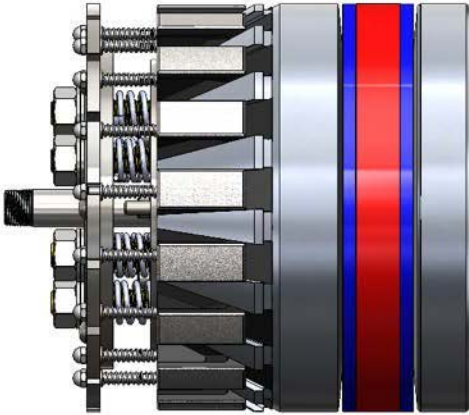
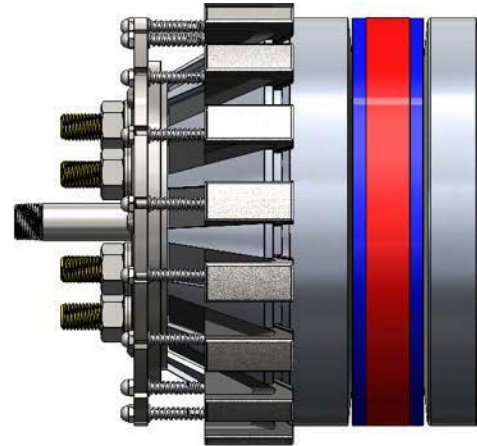

Figure 3: Not Ready to Install (Retracted)
Figure 4: Ready to Install (Compressed)
- The GripSafe ST Outboard Retraction Blocking NPS 4" to 12", 14" SCH 60-160, and 16" SCH 120-160 plugs should be in the "Ready to Install" position from the factory, see Figure 4.
- Ensure the **Compression Hex Nuts(19)** are tightened to the point where the **Spring Plate Hub(18)** is in the Compressed state, see Figure 4, and is flush with the **Retainer Plate(16)**.
- In the Compressed state show in Figure 4, the GripSafe ST Plug will immediately grip the pipe upon insertion.
6.5 If insertion into the pipe proves problematic in the Compressed state, shown in Figure 4, it may be advantageous to insert the plug in the Retracted state, shown in Figure 3. To do so, loosen all **Compression Hex Nuts(19)** to the top of their respective **Compression Shafts(6)**. Care should be taken to not completely remove the **Compression Hex Nuts(19)** from the assembly. In this orientation, the **Wedge Grippers(4)** will be fully retracted and the plug can be inserted freely into the pipe.